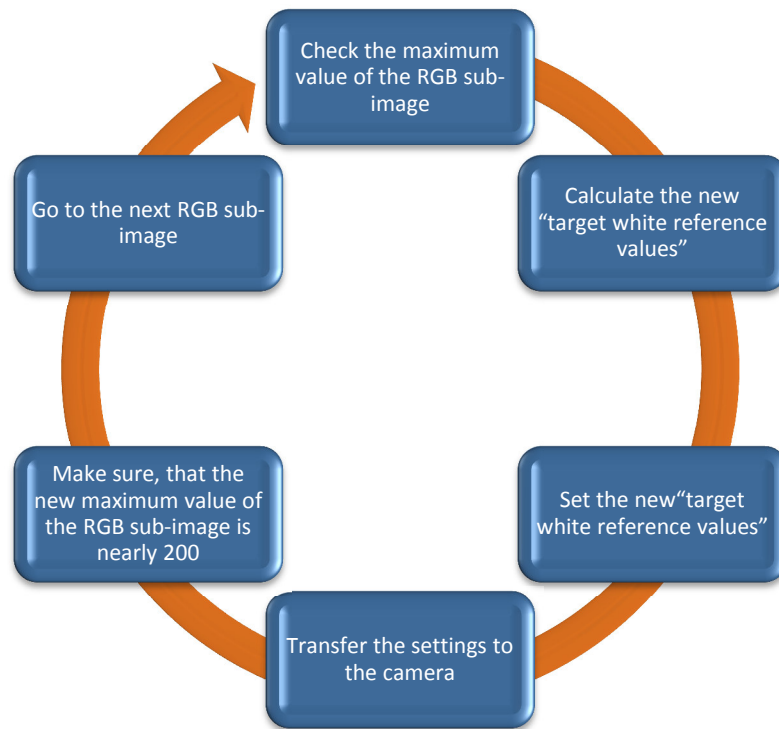

Figure 32: Gain setting circuit to set the right “target reference values” for RGB sub-image 1 to RGB sub-image 4
- 8) The gain setting circuit is illustrated in Figure 32. The circuit starts with the RGB sub-image 1, after passing the circuit it will be repeated for the next RGB sub-image.